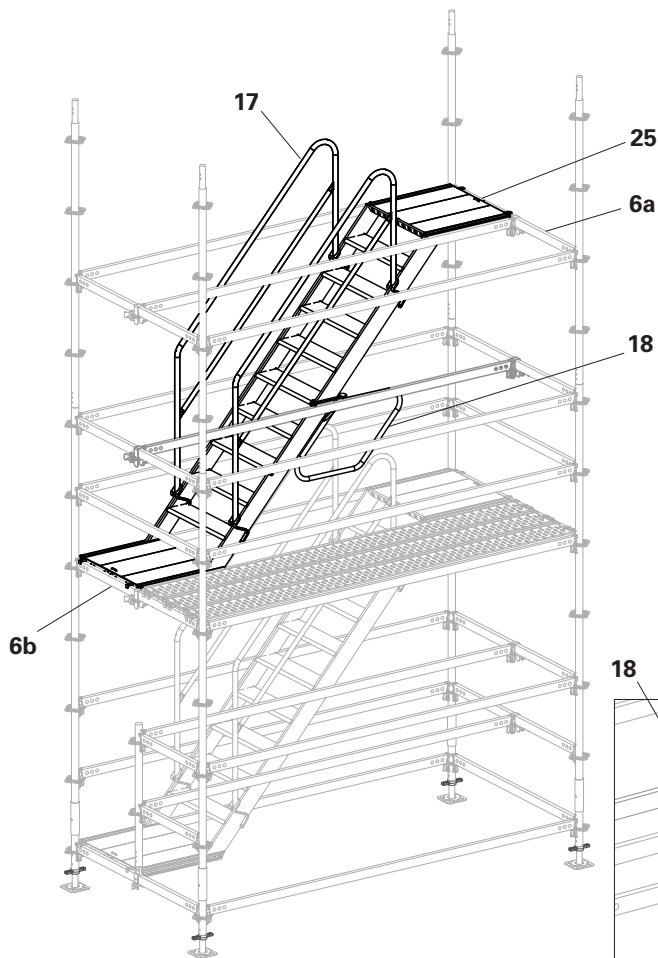
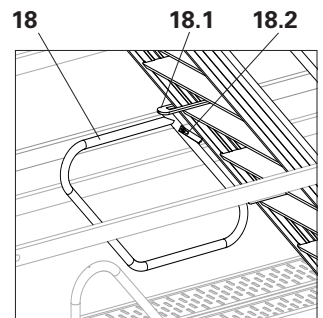

Fig. A4.01
Fig. A4.01a
1. Attach the Flex Stair UAS-2 (25) to the upper horizontal ledger (6a) first, then to the lower horizontal ledger (6b).
2. Fit 2 x Stair Guardrails UAG (17).
3. From the back of the stair, fit Stair Guardrail UAH-2 (18) with upper suspension (18.1) onto the 5th step from the top. Swing out the locking pin (18.2) and pull it down between the stair tower and the stair guardrail. (Fig. A4.01) & (Fig. A4.01a)